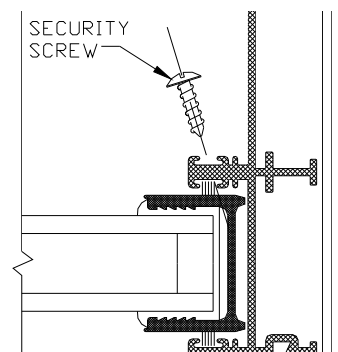

Figure 19
- **“O” Panel** - Lift and move the panel into the fixed jamb as far as possible. Verify that the weather stripping in the frame head is located so that it contacts the width of the “O” panel. Installing the fixed panel security screw: Using a 1/16” diameter bit, drill a hole into the fixed stile through the hole shown in Fig. 19. Then insert a black #8 x 3/4” self threading screw.